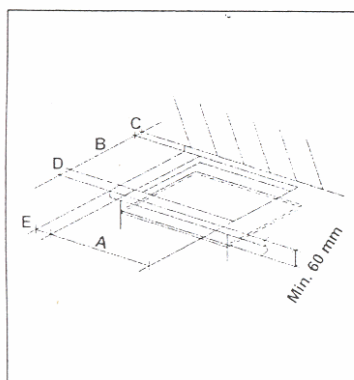
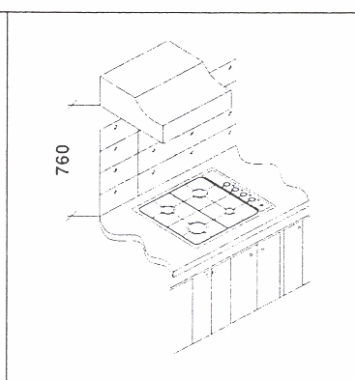

FIG. 8
FIG. 9
The measurements of the opening made in the top of the modular cabinet and into which the hot plate will be installed are indicated in either fig.8. Always comply with the measurements given for the hole into which the appliance will be recessed (see fig. 9).
- In order to avoid accidentally touching the potentially hot base of the cooktop, it is necessary to fix a wooden insert panel 60 mm minimum from the top of the bench. Fix the 25 mm spacers supplied to the bottom panel of the cooktop to ensure a 25 mm gap between the cooktop base and the wooden insert panel (fig. 8).